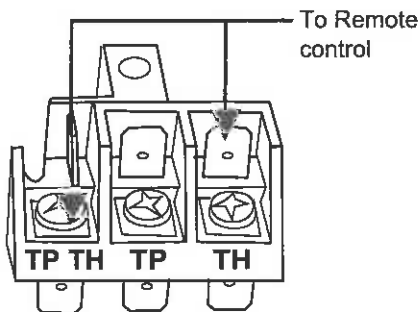

Figure 1
1. Connect the wires to the TH and TPTH terminals of the Millivolt valve. See Figure 1.